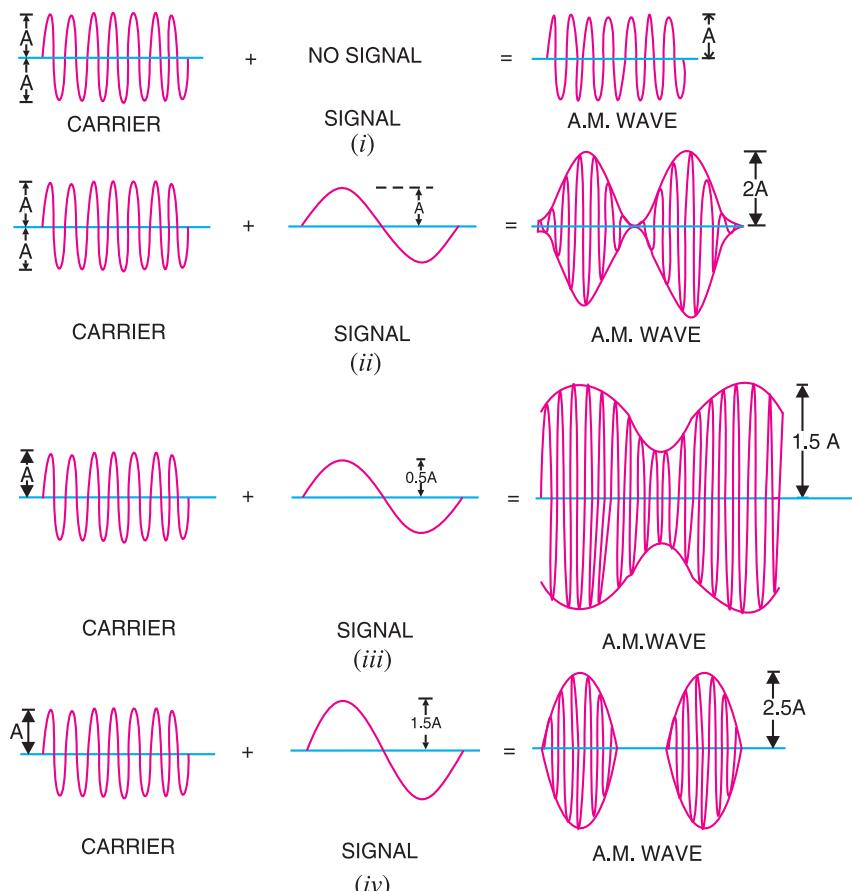

Fig. 16.3
The value of modulation factor depends upon the amplitudes of carrier and signal. Fig. 16.3 shows amplitude modulation for different values of modulation factor  $m$ .
- (i) When signal amplitude is zero, the carrier wave is not modulated as shown in Fig. 16.3 (i). The amplitude of carrier wave remains unchanged.
(ii) When signal amplitude is equal to the carrier amplitude as shown in Fig. 16.3 (ii), the amplitude of carrier varies between  $2A$  and zero.
(iii) When the signal amplitude is one-half the carrier amplitude as shown in Fig. 16.3 (iii), the amplitude of carrier wave varies between  $1.5A$  and  $0.5A$ .
(iv) When the signal amplitude is 1.5 times the carrier amplitude as shown in Fig. 16.3 (iv), the maximum value of carrier wave becomes  $2.5A$ .
**Importance of modulation factor.** Modulation factor is very important since it determines the strength and quality of the transmitted signal. In an AM wave, the signal is contained in the variations of the carrier amplitude. When the carrier is modulated to a small degree (*i.e.* small  $m$ ), the amount of carrier amplitude variation is small. Consequently, the audio signal being transmitted will not be very strong. The greater the degree of modulation (*i.e.*  $m$ ), the stronger and clearer will be the audio signal. It may be emphasised here that if the carrier is overmodulated (*i.e.*  $m > 1$ ), distortion will occur during reception. This condition is shown in Fig. 16.3 (iv). The AM waveform is clipped and the envelope is discontinuous. Therefore, degree of modulation should never exceed 100%.